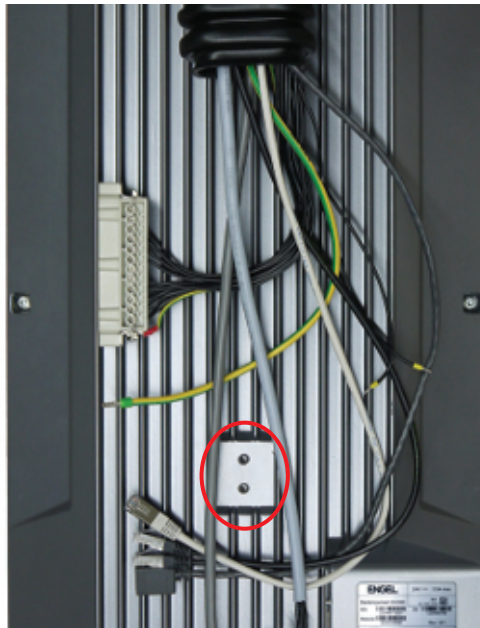
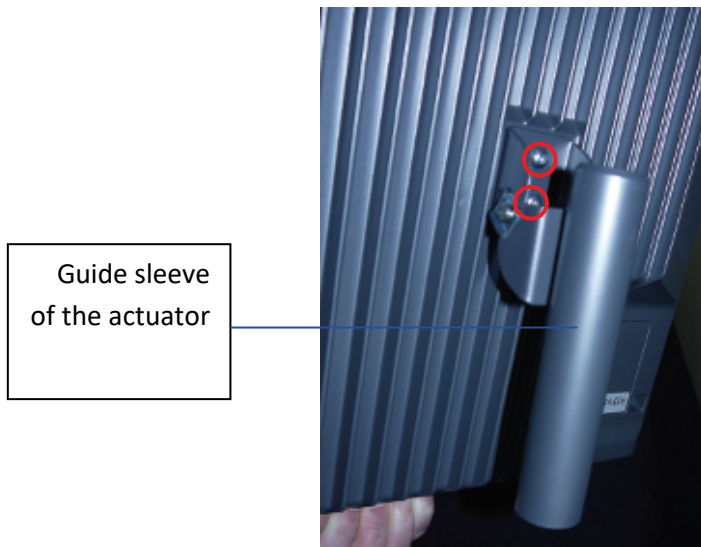

Fig. 33: Threaded holes and contact surface for guide sleeve mounting
Fig. 34: Mounting the guide sleeve of the actuator to the CC300
**The guide sleeve must be mounted directly and firmly to the attachment point of the CC300 without any space between the contact surface of the guide sleeve and the contact surface of the CC300 (see Fig. 33 and Fig. 34).**